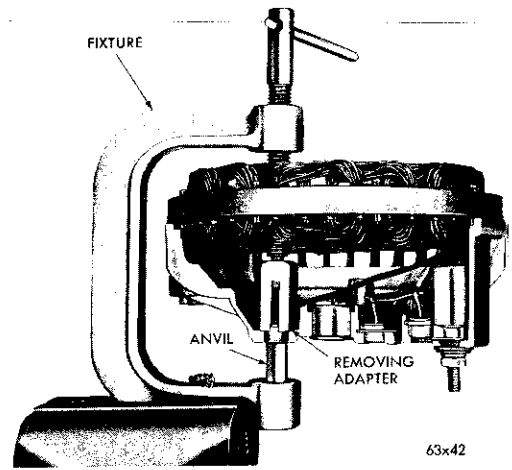

Fig. 24—Removing Rectifiers
- (4) Cut the lead at the malfunctioning rectifier.
- (5) Place the Rectifier Removing and Installing Press in a vise and support the end shield on the clamp anvil under the rectifier to be removed (Fig. 24).